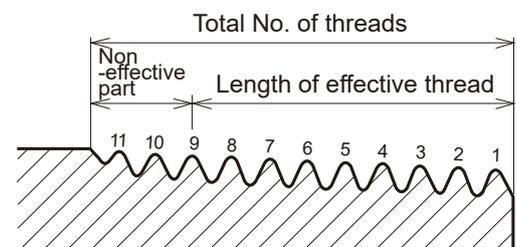

Fig.44
- Confirm whether the thread length is as it should be according to the number of threads as shown in Fig. 44.